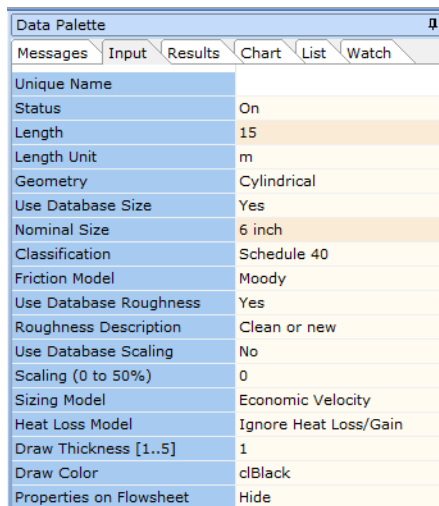

Figure 22: Input Inspector at Pipe Number “-1”.
18. The Input Inspector on the *Data Palette* should now look like the screenshot given below (Figure 22).